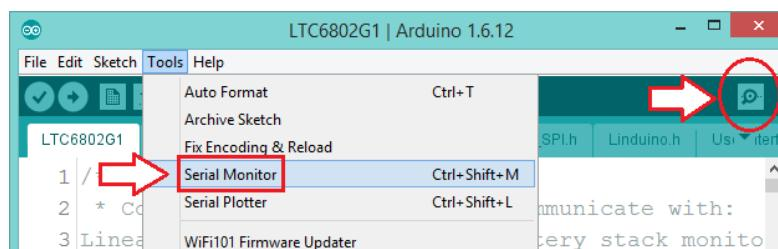

Figure 12: Running the serial monitor
2. From 'Tools' choose 'Serial Monitor' option (check Fig.12).